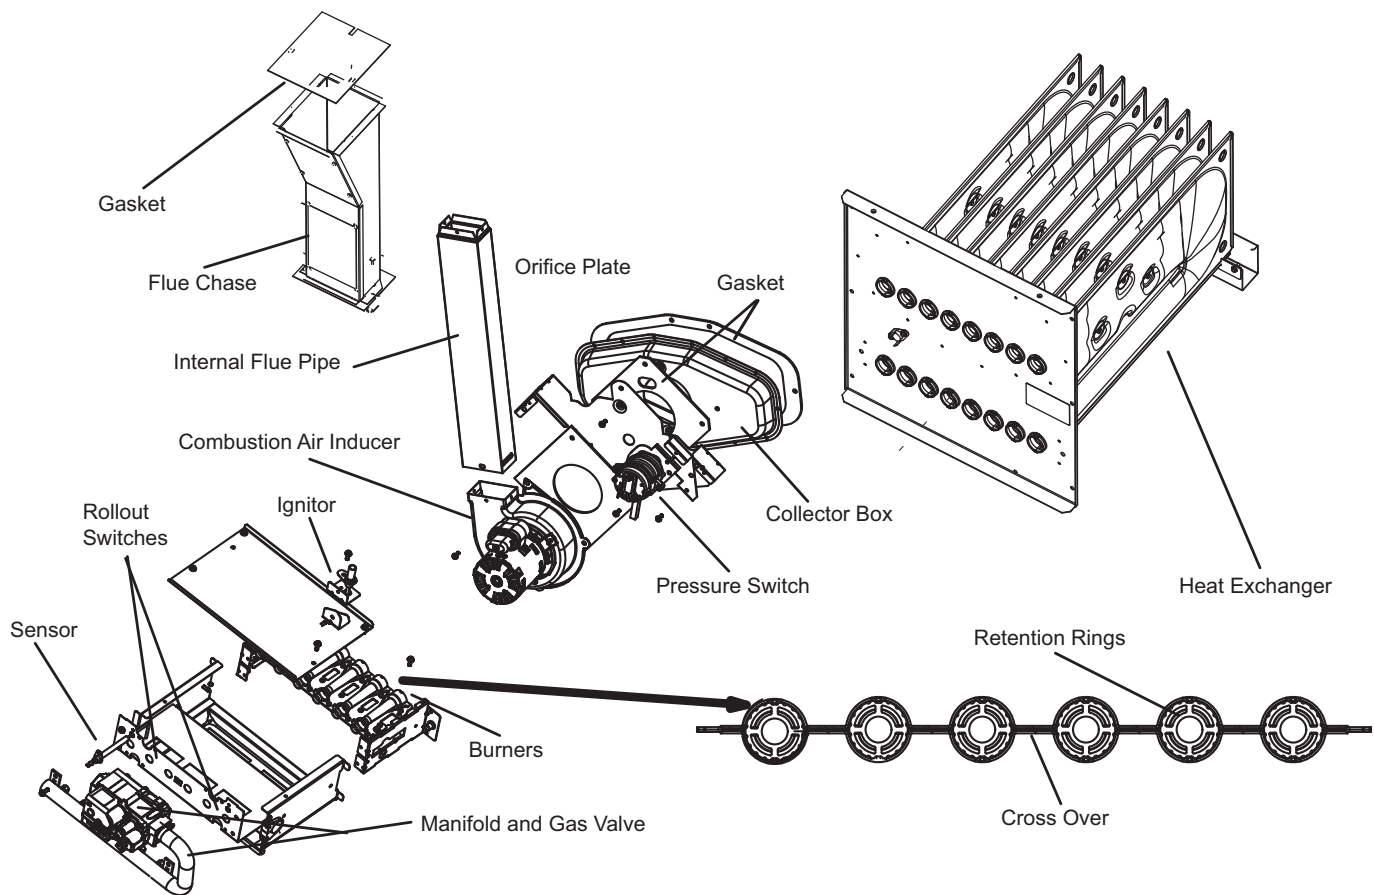

Figure 25. Burner, Combustion Air Inducer Assembly & Heat Exchanger Removal
10. To clean burners, run a vacuum cleaner with a soft brush attachment over the face of burners. Visually inspect inside the burners and crossovers for any blockage caused by foreign matter. Remove any blockage. **Figure 25** shows burner detail.